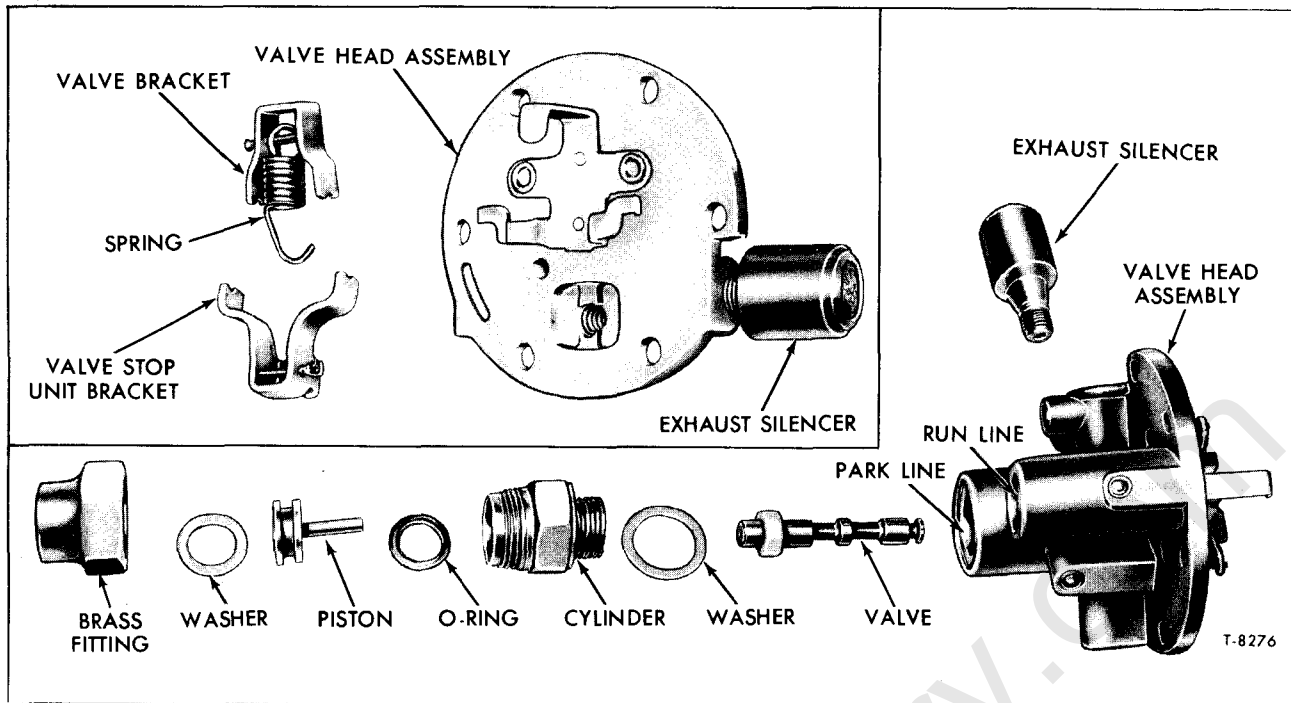

Figure 10—Valve Head Assembly Components
1. Remove six valve head attaching screws (27) and turn motor shaft (8) so that gear rack assembly (24) is brought back as near as possible to the valve head assembly (26).
2. Lift valve head (26) and unhook valve stop unit assembly (22).
3. To repair valve head assembly, refer to figure 10 and proceed as follows:
b. To remove valve from valve head, refer to inset of figure 10, and remove spring from valve bracket. Valve bracket and valve stop unit bracket can be removed from valve head. Remove valve from valve head assembly (park line).
5. Raise valve stop unit (22) and hook under pin on valve stop unit bracket (fig. 10), making sure that air passage in head is directly opposite air tube in cylinder.
6. Move rack assembly (24) slightly away from end to provide clearance and install 6 attaching screws.
**IMPORTANT:** Exhaust silencer assembly (fig. 10) should be replaced when it becomes clogged. Tighten exhaust silencer to 30 to 35 inch-pounds torque.